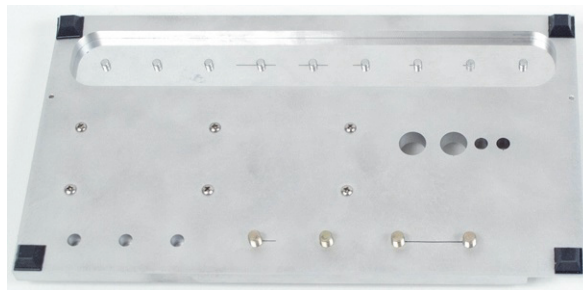

Figure 5-85 The back of the standard
6. Turn the standard upside down (to expose the larger face; see Figure 5-85 on page 188), place the probe on an area that is free of defects, and then press the A-LIFT NULL key (⊕^{A-LIFT}).